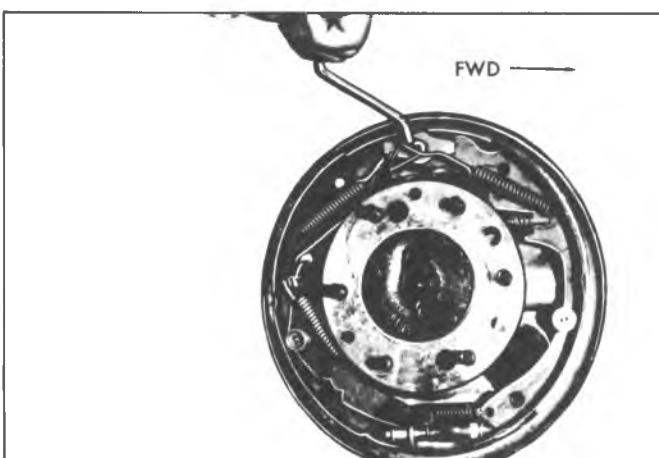

Fig. 50-Installing Pull Back Spring
- Hook springs in shoes using Tool J-8049 by installing the primary spring from the shoe over the anchor pin and then the spring from the secondary shoe over the wire link end (fig. 50).